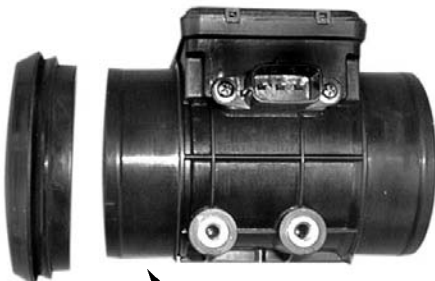
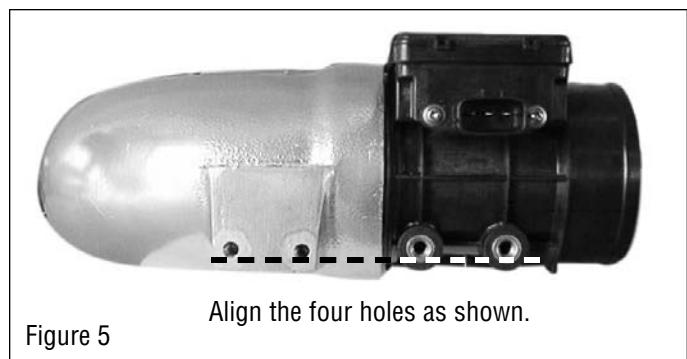

Figure 4
Figure 5
4. Re-install the rubber seal onto the inlet end of the air meter with the seal ribs oriented as shown (See Figure 4). Lightly lube the ribs of the seal and the inside mating recess of the aluminum intake duct with grease or oil. **Note:** Do not apply any lubricant between the seal and the air meter. Gently insert the air meter/seal assembly into the duct while aligning the four (4) holes as shown in Figure 5.